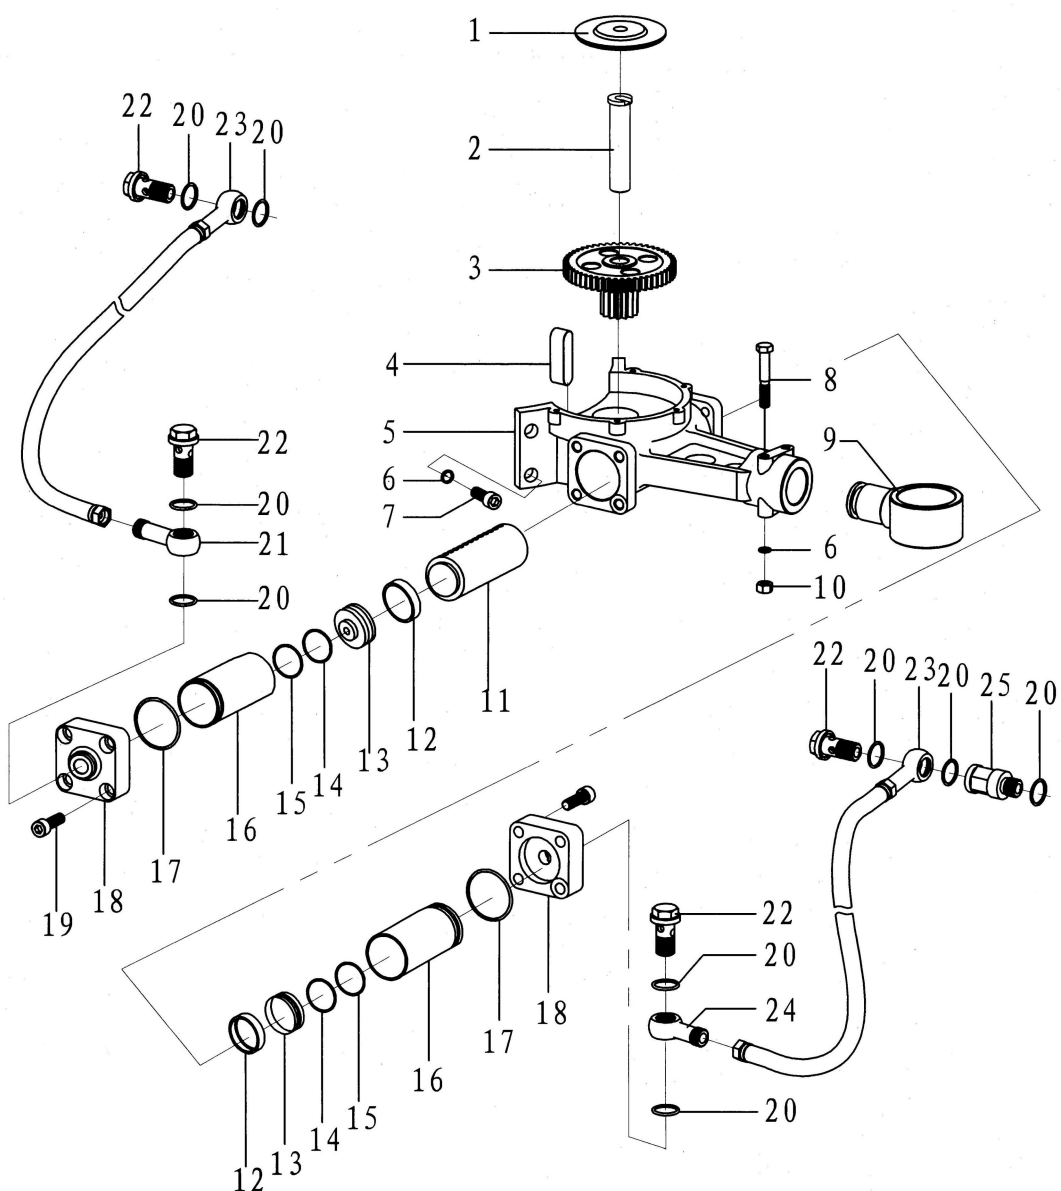

Fig.8-11
8.11Backup tong tail and parts list(Fig.8-11,Table 8-11)